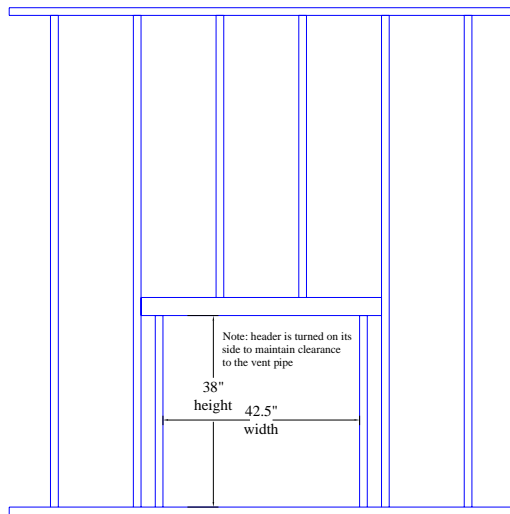

Fig. 5 – Framed Opening
- 1) A rough framed opening of 42 1/2" wide by 38" high will be required for installation. The minimum depth is 21". (see figure 5)